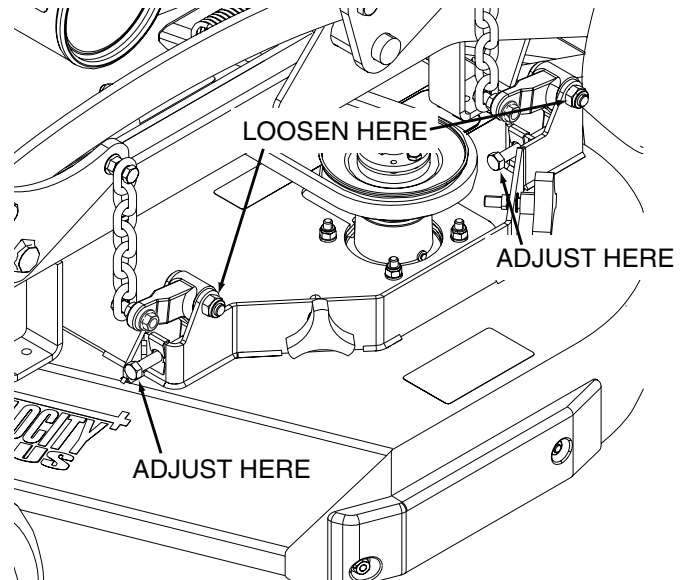

Figure 6-6. Left Side Cutter Deck Adjustment
- A. Loosen the elastic stop nuts securing the deck level links on the front and rear of the cutter deck. See Figure 6-6.